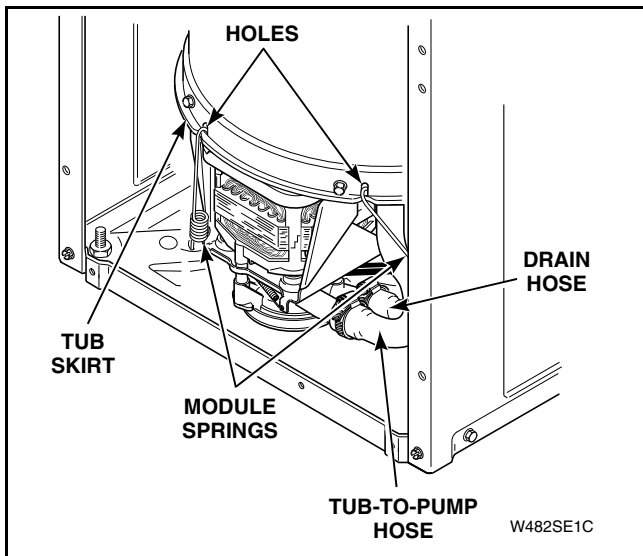

Figure 53
- q. Using No. 289P4 Spring Hook Tool, unhook six module springs from lower edge of outer tub. Refer to *Figure 53*.
- r. Loosen hose clamp and remove drain hose from pump outlet. Refer to *Figure 53*.
- y. Loosen hose clamp and remove tub-to-pump hose, from bottom of outer tub. Refer to *Figure 53*.
- k. Using No. 289P4 Spring Hook Tool, unhook six module springs from lower edge of outer tub. Refer to *Figure 53*.
- l. Loosen hose clamp and remove drain hose from pump outlet. Refer to *Figure 53*.